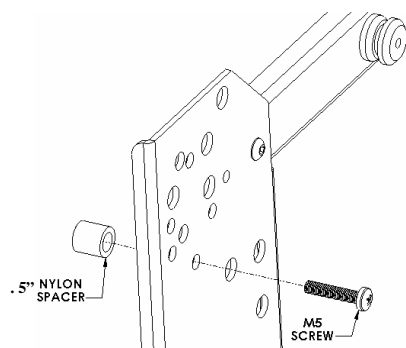
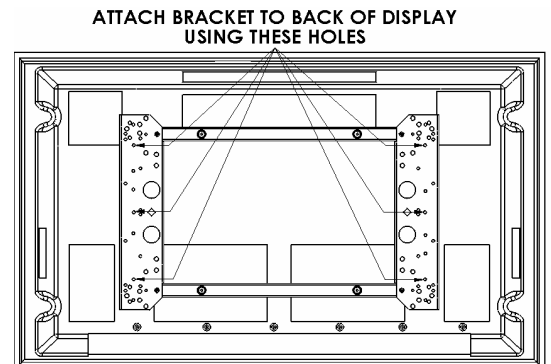

Figure 6
Figure 7
3. Place .5" Nylon spacers over mounting holes on back of screen. Attach mounting brackets to display using the M5 x 25mm screws (see Figure 6 & Figure 7). If screen has protrusion on back, stack both .5" and 1" spacers and use M5 x 50mm screws.